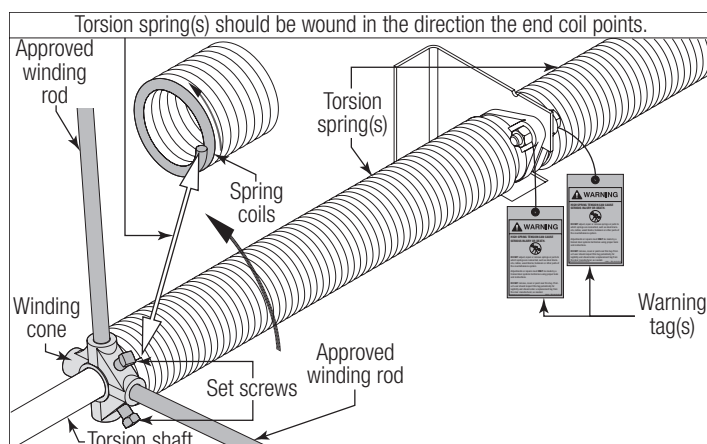
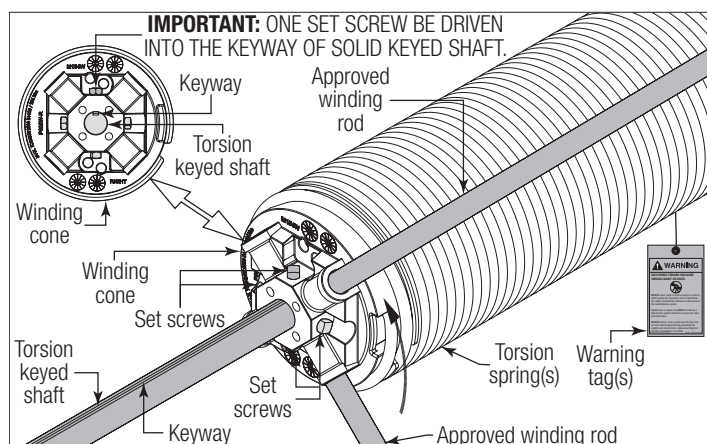

Figure 76
Figure 77
**PRIOR TO WINDING THE SPRING, ENSURE YOU'RE WINDING IN THE PROPER DIRECTION AS SHOWN IN FIGURE 76 AND FIGURE 77. OTHERWISE THE SPRING FITTING MAY RELEASE FROM SPRING AND RESULT IN SEVERE OR FATAL INJURY.**